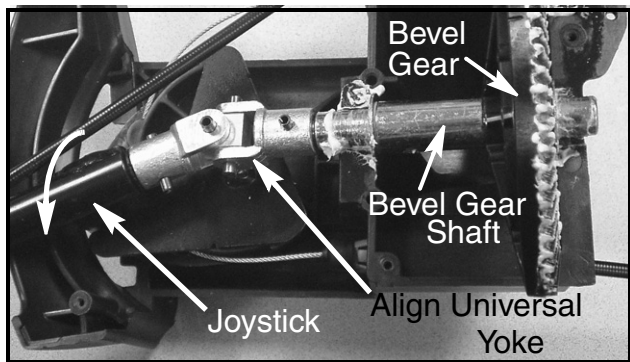

FIGURE 11
15. Rotate the joystick so that the universal yoke attached to the bevel gear shaft is as shown in Figure 11.
24. Refer to Figures 11 and 12 and install the joystick/bevel gear/flat washers sub-assembly (removed in Step 16) into the LH housing. Ensure that both flat washers are positioned as shown in Figure 15.